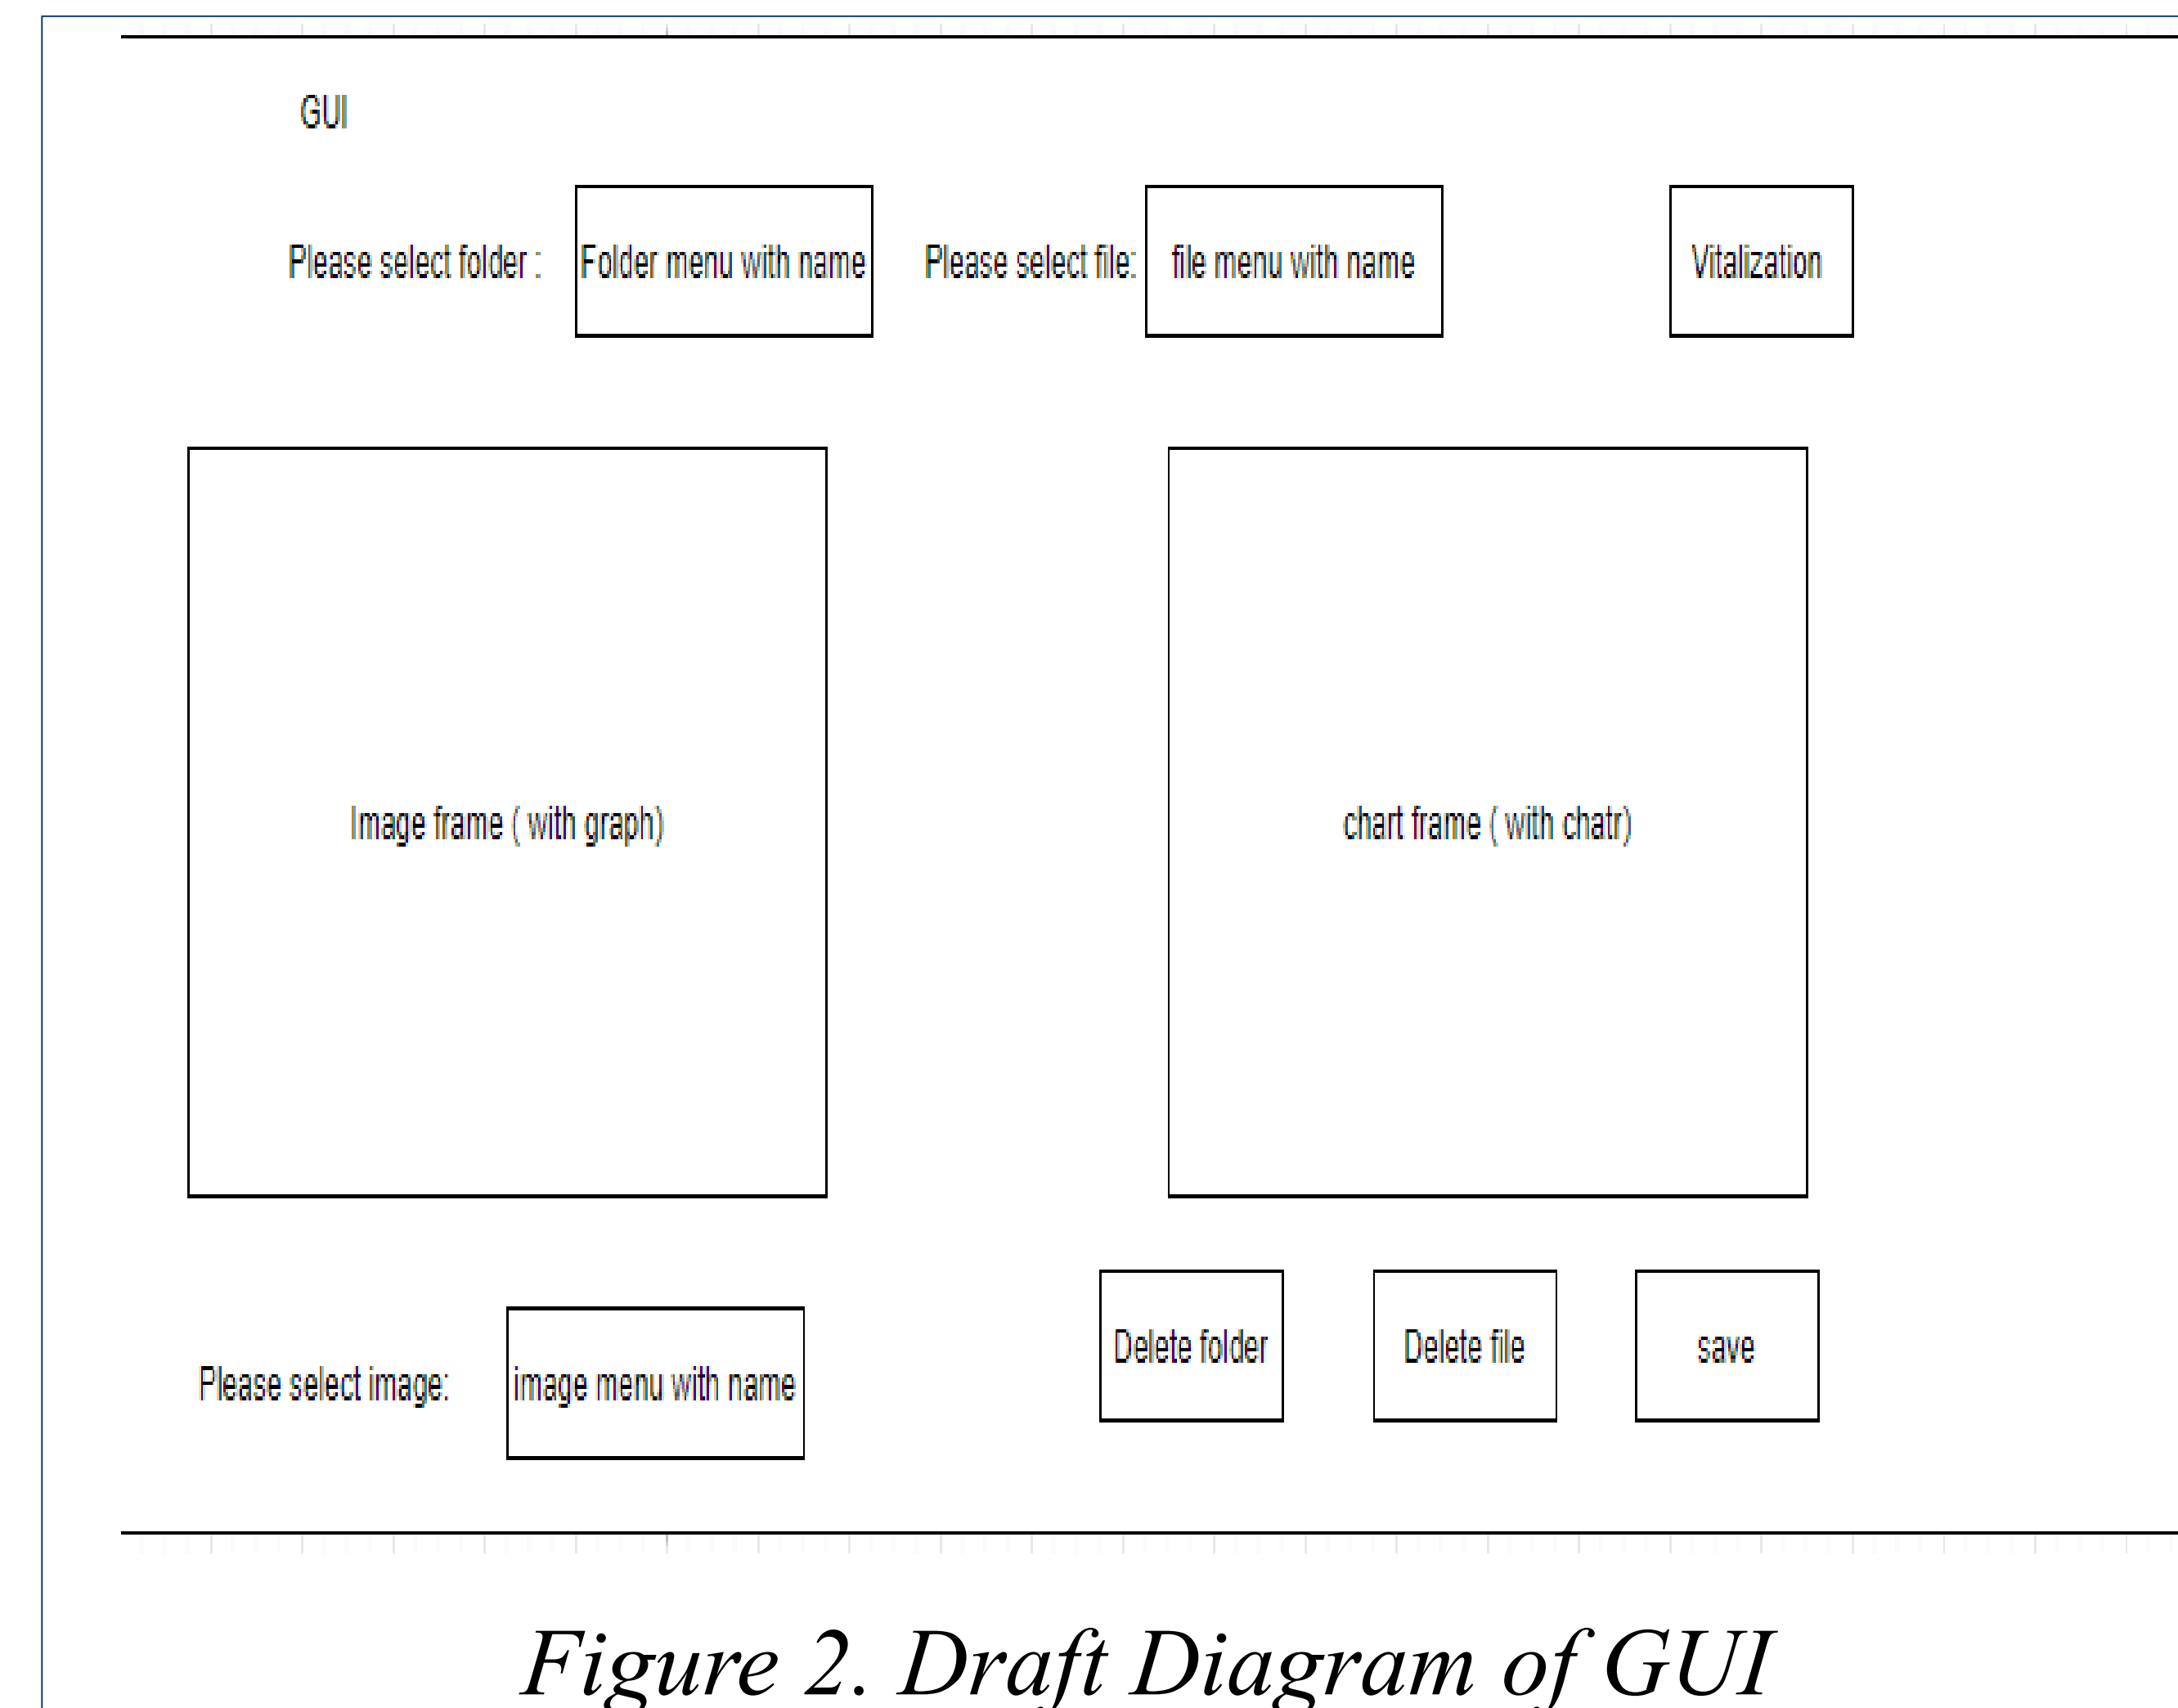

Figure 2. Draft Diagram of GUI
- **Graphical User Interface (GUI):** the user interface is designed to convenience non technical people who can modify and download the SD card contents. The diagram of GUI shown in Figure 2.